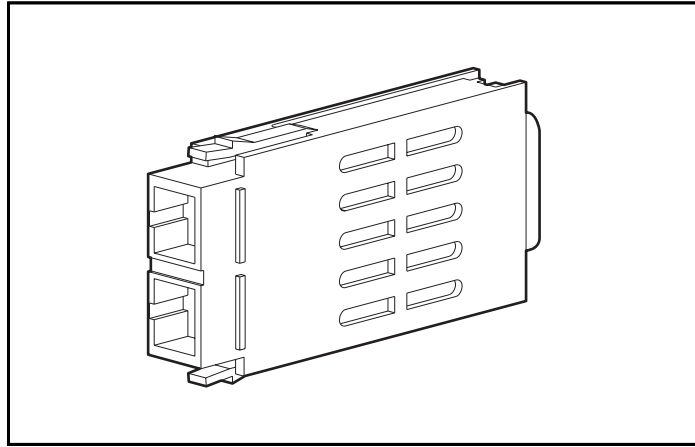

Figure 2-12. GigaBit Interface Converter Module (GBIC)
- All cables should run through the cable channel on the left side of the rack. See Figure 2-12.